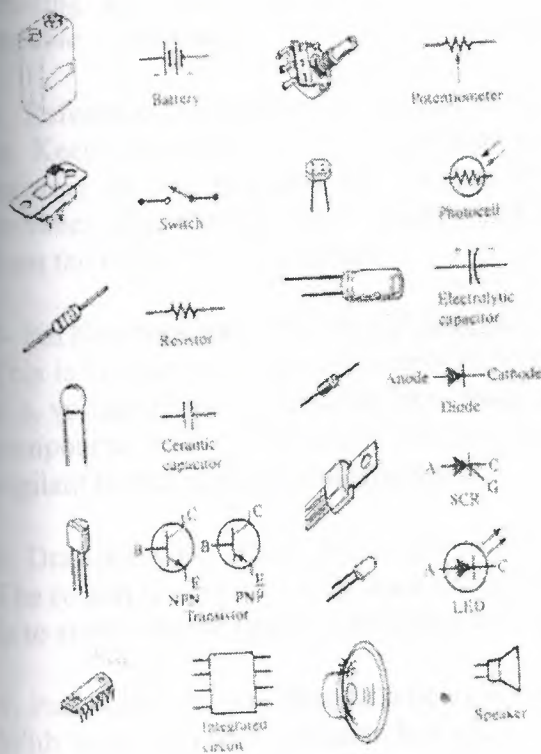

FIGURE 4-1
3. Sometimes component leads are identified with letter symbols. For example, the transistor symbols shown in Figure 4-1 have their emitter (E), base (B), and collector (C) leads noted.